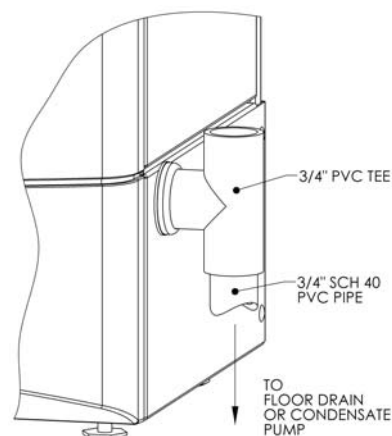

Figure 6.3: Condensate Drain Piping
1. Connect a 3/4" schedule 40 PVC Tee to the outlet of the bulkhead fitting as shown in Figure 6.3. Pipe from the bottom of the tee to a suitable drain.